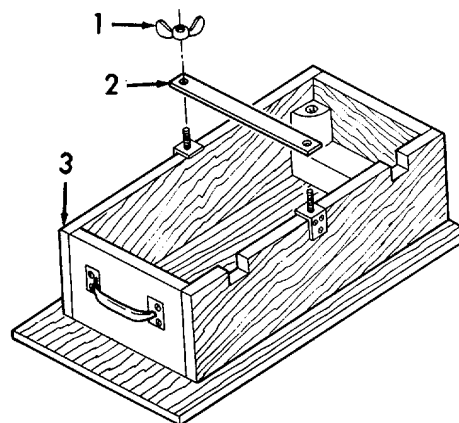

Figure 5-9. Holddown Strap, Replacement.
- (1) Replacement of the holddown strap as follows (refer to Figure 5-9):
- (a) Remove two wingnuts (1) and holddown strap (2) from tray (3).
- (b) Install holddown strap (2) and secure with two wingnuts (1).